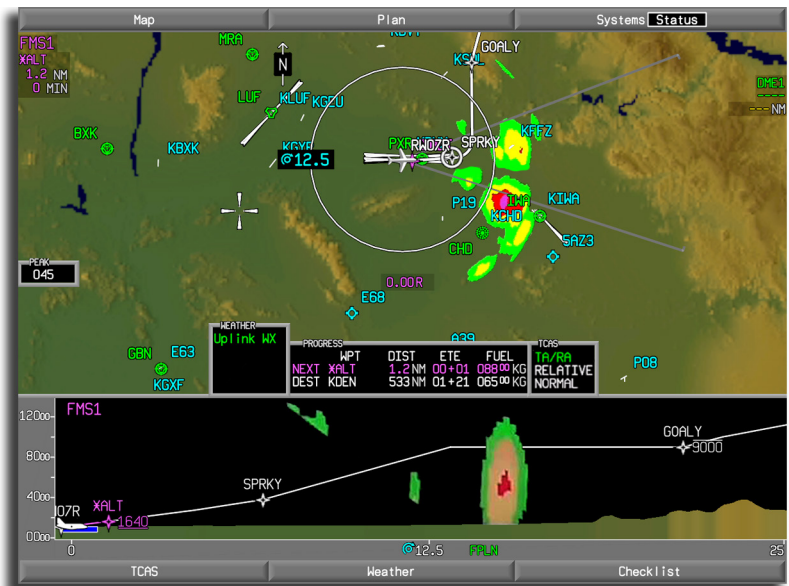

Figure 18-25
VSD WX – Selecting VSD WX displays a profile view of the radar returns on the vertical situation display (VSD) depicted by color intensity patterns above, below, and ahead of the aircraft in the direction of the flight plan or selected azimuth (AZ). An example of weather radar returns displayed on the VSD is shown in Figure 18-25.